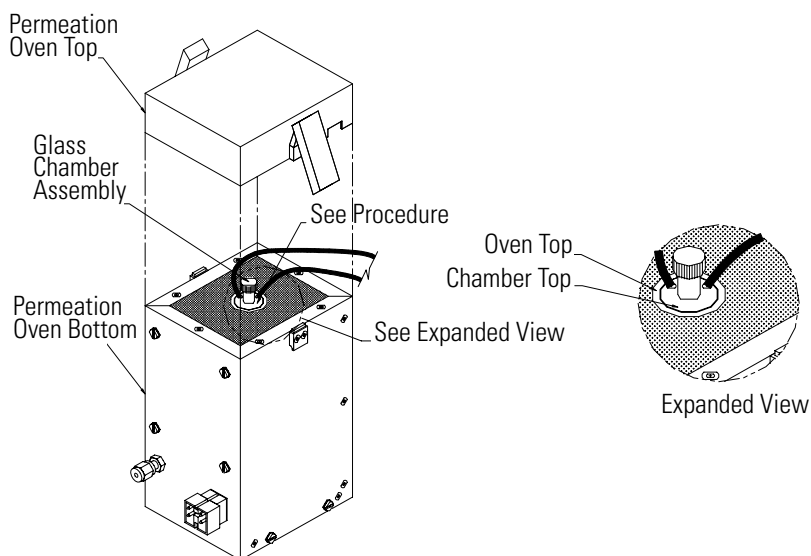

Figure 7-15. Replacing the Glass Chamber Assembly
- f. Replace glass chamber assembly into oven until top of assembly is flush or slightly below oven top (Figure 7-15).